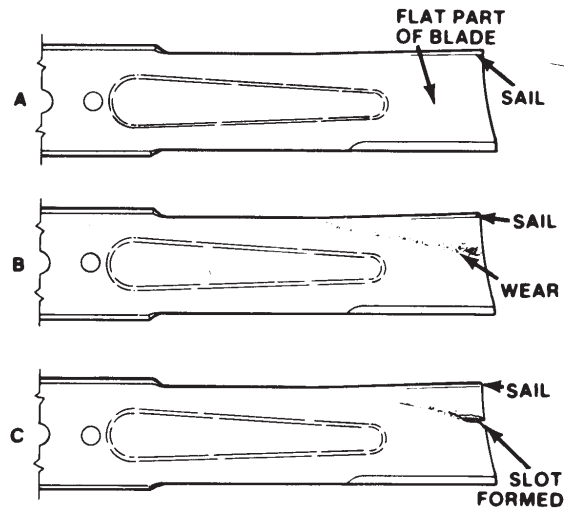

Figure 27
2. Examine the cutting ends of the blade carefully, especially where the flat and curved parts of the blade meet (Fig. 27-A). Since sand and abrasive material can wear away the metal that connects the flat and curved parts of the blade, check the blade before using the machine. If wear is noticed (Fig. 27-B), replace the blade; refer to Removing the Cutter Blade, page 21.
If the blade is allowed to wear, a slot will form between the sail and flat part of the blade (Fig. 27-C). Eventually a piece of the blade may break off and be thrown from under the housing, possibly resulting in serious injury to you or bystanders.